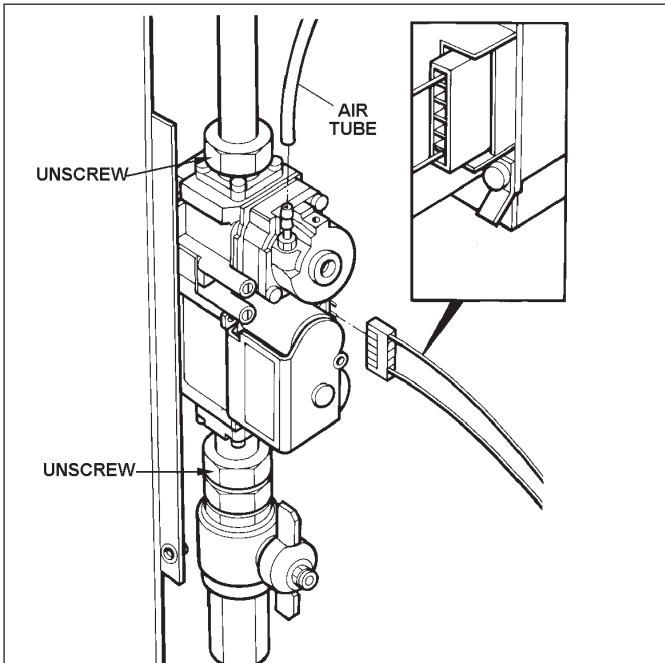

FIG. 16
4. Unscrew boiler gas valve connections and remove gas train. (See Fig. 16).
7. Remove air pressure tube from gas valve (See Fig. 16).